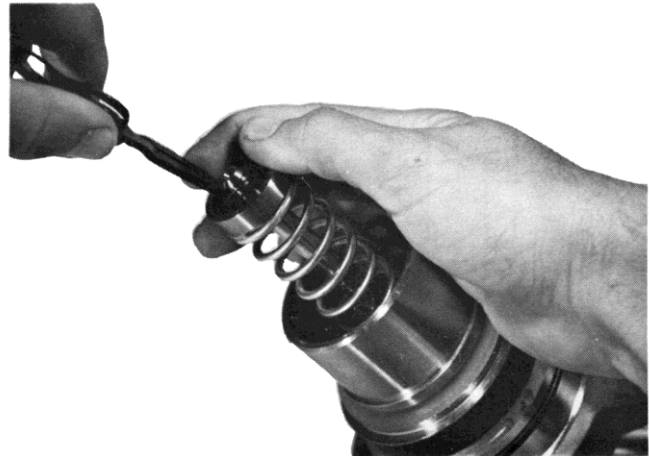

Figure 5
Lube the vent plug O-ring (19), slide it inside of vent plug (17) and position it in O-ring groove with slim rounded object such as ballpoint pen. Slide vent plug (17) on stem (22). (See figure 5). Hold plug (17) against spring